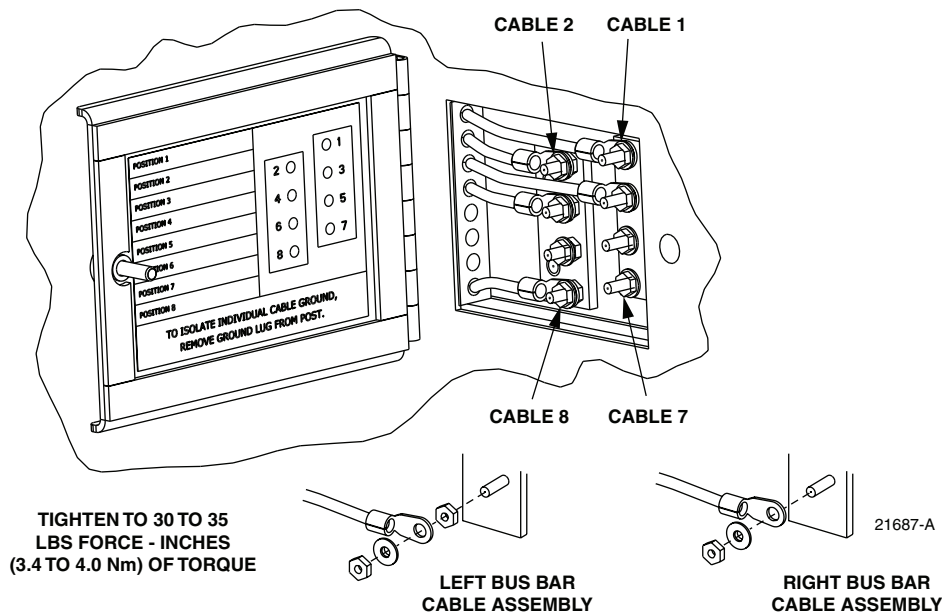

Figure 29. Cable Grounding System - Exterior View
14.15 Open the grounding system access cover located at the rear side of the cabinet as shown in Figure 29.